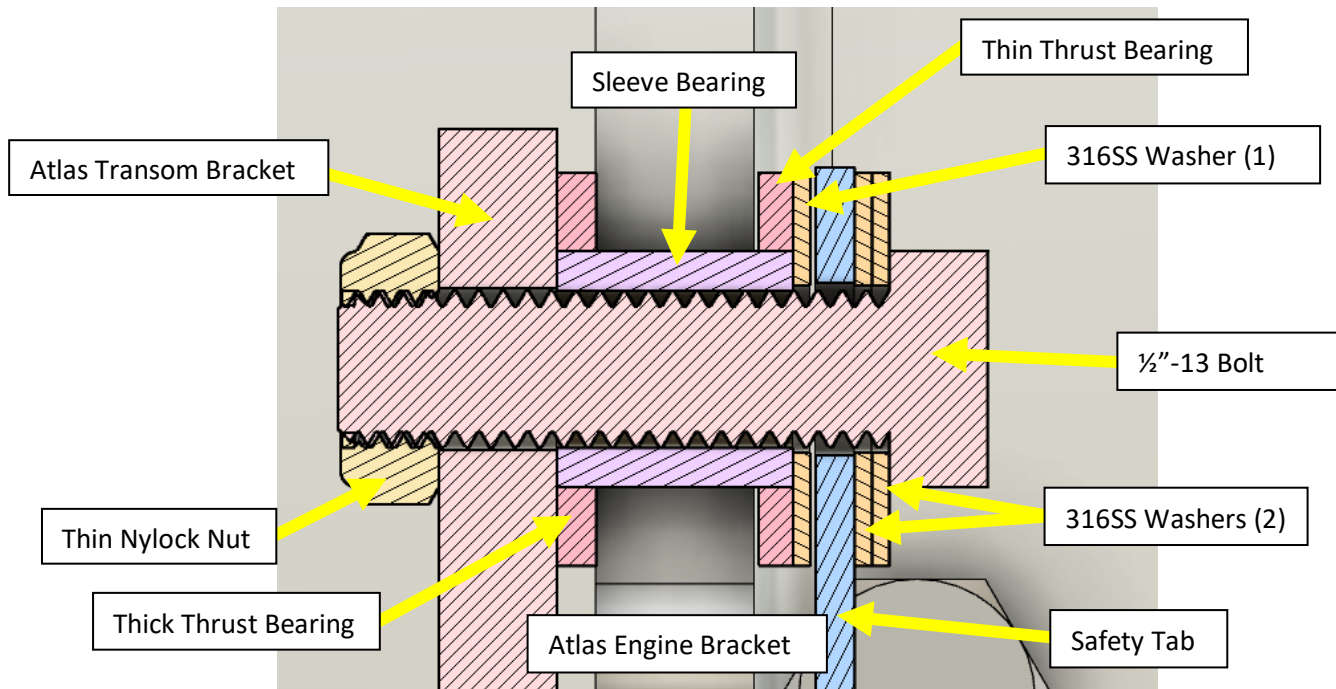

Figure 1 - Bearing Washer Section View w/o MJRK
- c. If replacing the bearings, remove the existing bearings and thrust washers. Replace with the C954 Bearings as shown in Figure 1 below.
7. Ensure there is one washer on each stud, outside of the outer thin thrust washer (Noted “316 SS Washer (1)” in Figure 1).
- b. Place two washers on the provided ½”-13 x 1.75 Cap Screw (Noted “316SS Washers (2)” in Figure 1) then insert through the safety tab and through the washer and bearings.